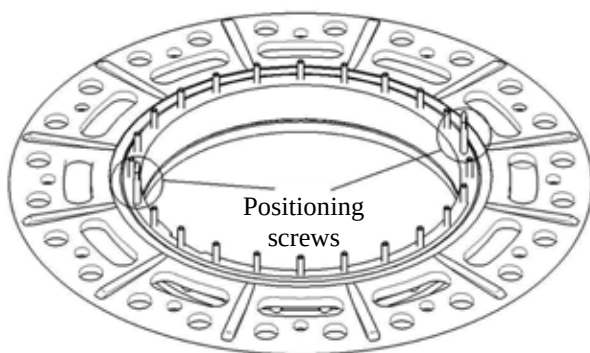

Figure 26 Sealing ring on the support flange
- 1) Before assembling the bell-type transformer tank cover, clean the sealing surface of the tap-changer's support flange. Place the sealing ring on the support flange (Figure 26), and pull out the adjusting blocking.